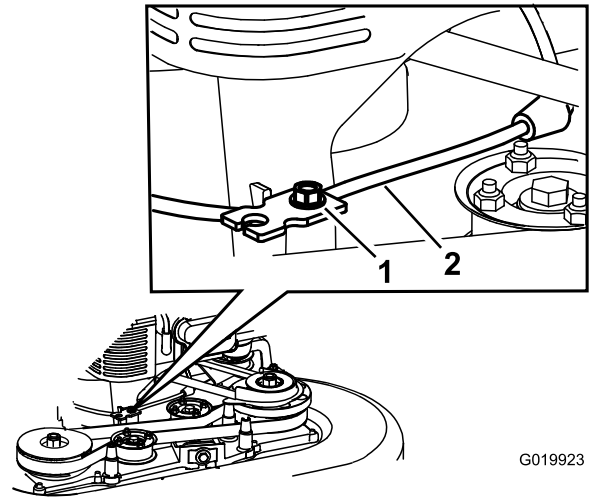

Figure 44
5. Loosen the cable-clamp screw (Figure 44).